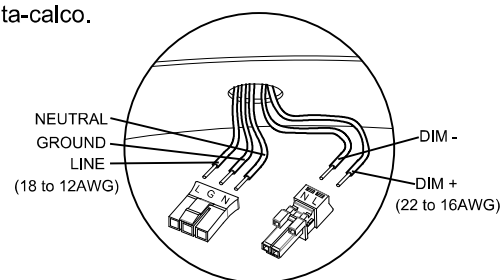

Fig. 2 (All wires to be solid. Strip to 0.35")
2. Attach supplied electrical quick connects to mains voltage and dimming conductors according to Fig. 2.